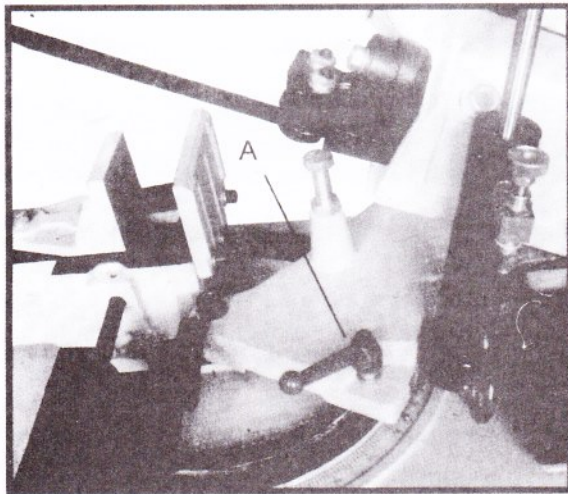

Fig. 17
This saw arm can be adjusted to left  $0^{\circ}$ - $60^{\circ}$ , and to right  $0^{\circ}$ - $45^{\circ}$ . If you want to make an angel cut, loosen the lock knob (A) Fig. 17, after you turn the saw arm to your desired angel, then fasten the lock knob (A). And if you want to make a left angle cut than  $30^{\circ}$ , it had better to move the vise to the right side, there is a pre-drilled hole for mounting the vise.